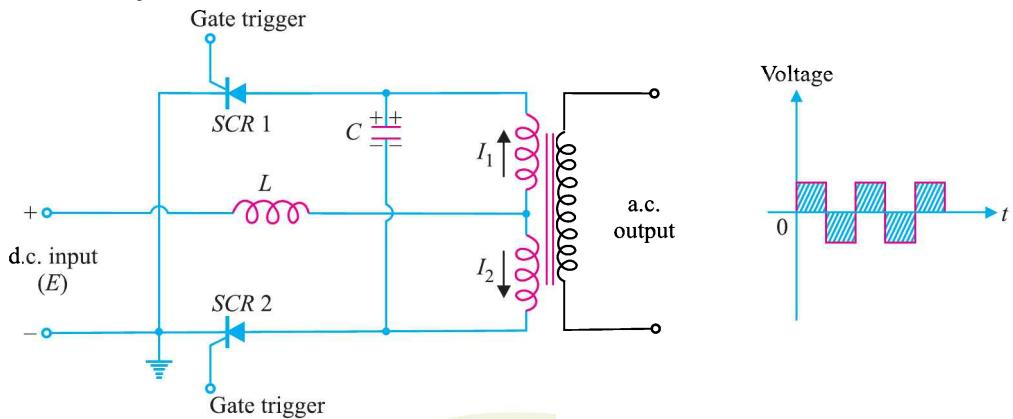

Fig. 20.18
with SCRs, whose gates are triggered by an external pulse generator, we get the practical SCR inverter as shown in Fig. 20.18.
- When trigger pulse is applied to the gate of SCR 1, this device will conduct and SCR 2 will turn off by the process just described. In this way, SCR 1 and SCR 2 alternately turn *ON* and *OFF*. Consequently, a.c. output is obtained as shown in Fig. 20.18.
* The capacitor voltage will charge to double the supply voltage (E) as a result of transformer action between the two primary windings.